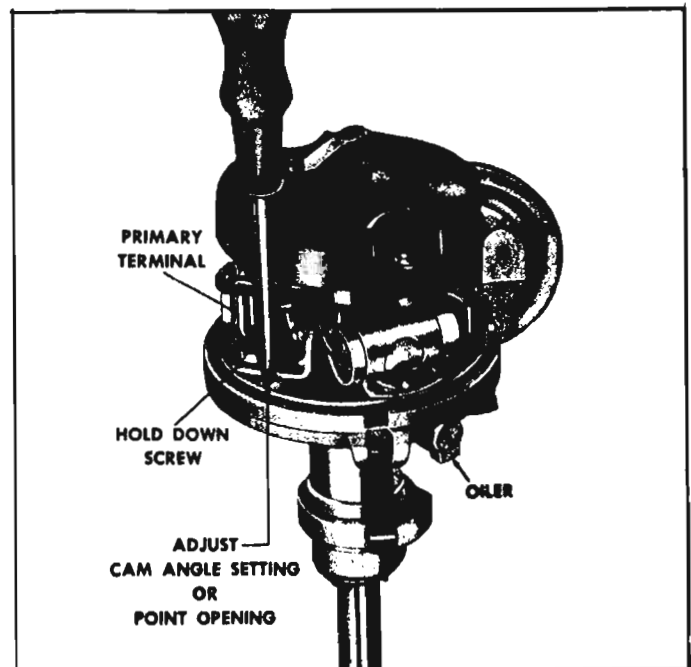

Fig. 7-3—Point Adjustment
- i. Adjust distributor contact point gap to .019" (new points) or .016" (used points), using a feeler gauge or dial indicator (fig. 7-3). Breaker arm rubbing block should be on extreme top of cam lobe during adjustment.